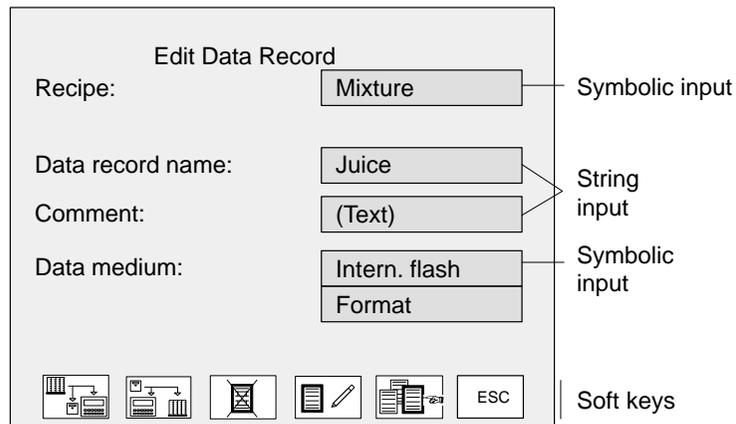

Bild 9-10 The *Z_RECORD_I* Standard Screen on OP
1. From the start screen, call screen *DAT_I*. Figure 9-10 shows standard screen *Z_RECORD_I* on the OP. The FLASH data medium has already been set. Move the cursor to the *Format Data Medium* field. Press **ENTER** twice. In reply to the following queries, enter 0 for **Yes** in every instance.